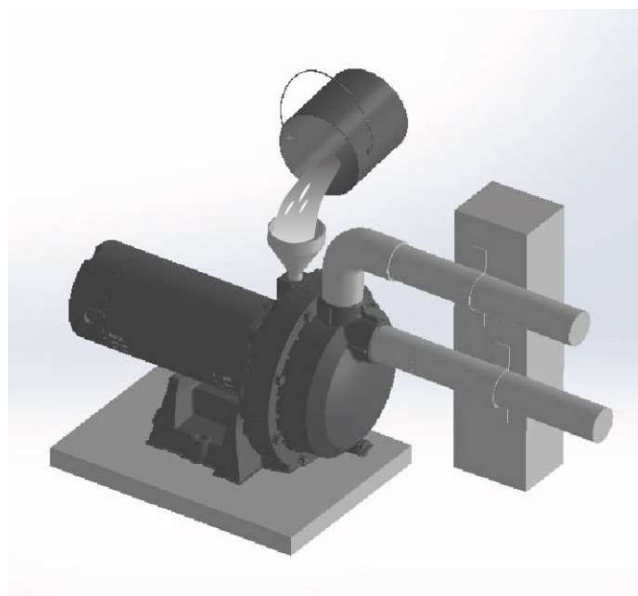

Figure 5: Fill Pump Before Starting
Step 3. Fill pump and suction pipe with water (Figure 5).